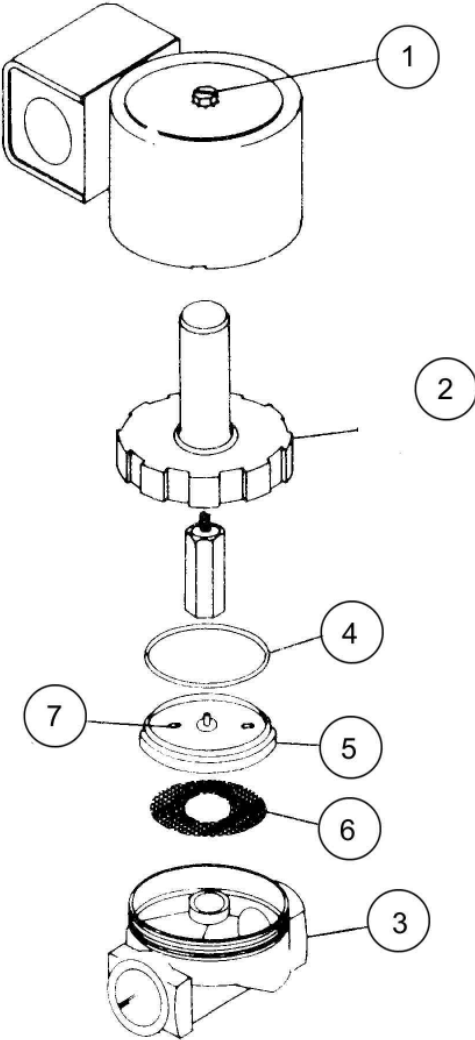

Figure 7.5.3
7.5.3 SERVICE SOLENOID VALVE DIAPHRAGM (See Figure 7.5.3)
7.5.4 REPLACE SOLENOID VALVE COIL (See Figure 7.5.3)